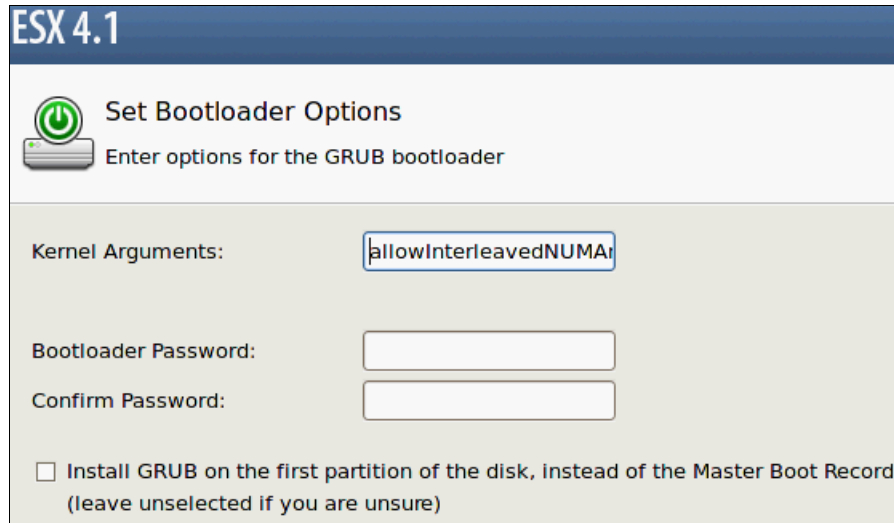

Figure 7-61 Set Bootloader Options
- Continue with the installation until you get to the Set Bootloader Options page, as shown in Figure 7-61 on page 365, and type the following parameter in the Kernel Arguments field: